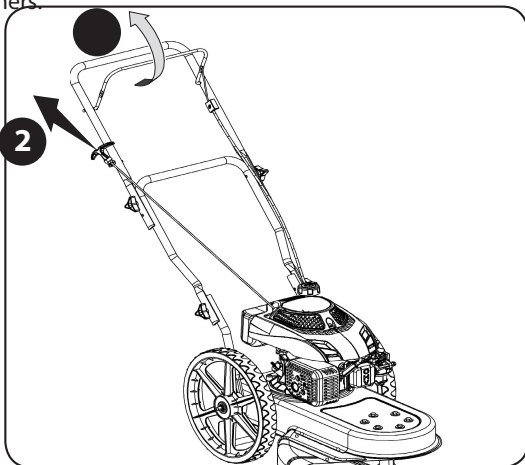

Figure 5-2
1. Press the priming pump one or two times and depress control lever. See Figure 5-2①. and pull the starter rope to start the engine. See Figure 5-2②.